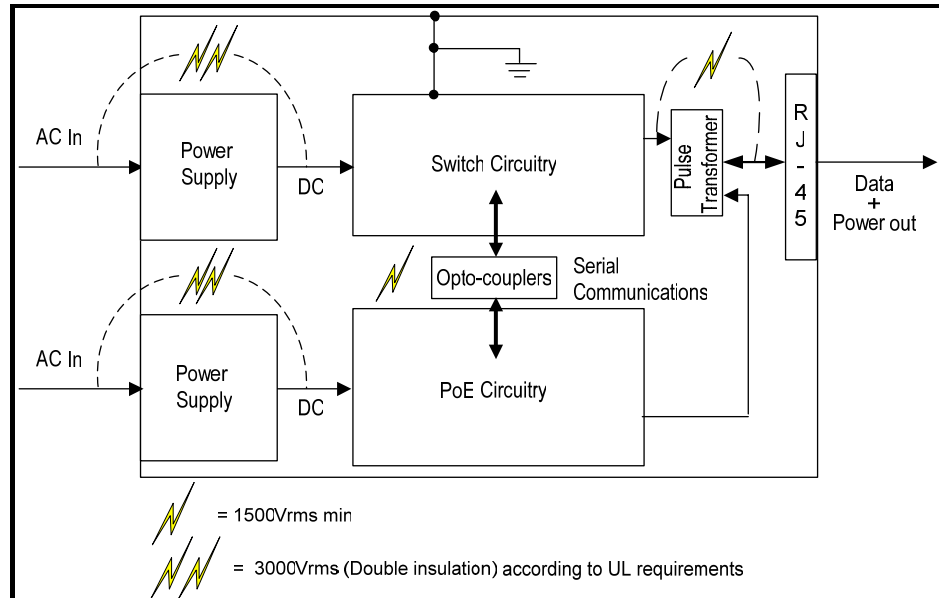

Figure 3: Switch Circuitry with Two DC Sources
- A separate DC input for the switch and the PoE circuitry and isolated serial communication between the PoE circuitry and the switch circuitry (see Figure 3).